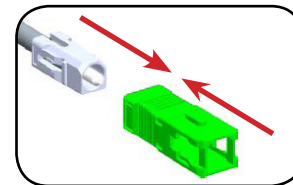

Figure 4
Step 4: Align the key on the outer housing with the black line on the connector, then slide the outer housing over the entire assembly until it snaps into place (**Figure 4**).